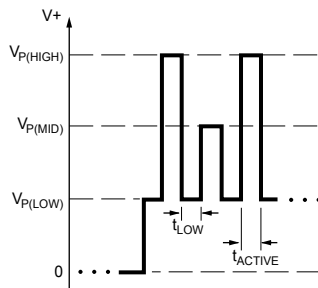

Figure 6. Parameter selection pulse train. This shows the sequence for selecting the register corresponding to key 1, indicated by a single  $V_{P(MID)}$  pulse.
Each programmable mode and parameter can be accessed through specific registers. To select a register, a sequence of voltage pulses consisting of a  $V_{P(HIGH)}$  pulse, a series of  $V_{P(MID)}$  pulses, and a  $V_{P(HIGH)}$  pulse (with no VCC supply interruptions) must be applied serially to the supply pin. The quantity of  $V_{P(MID)}$  pulses is called the key, and uniquely identifies each register. The pulse train used for selection of the first register, key 1, is shown in figure 6.